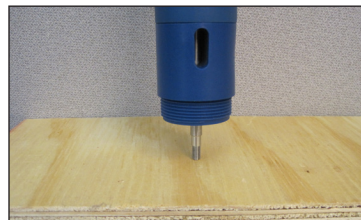

Figure 4 A & B
2. **Shaft Removal** - To remove the shaft (item 4), tap the bottom of the shaft on a piece of wood or plastic and push the shaft up and out of the head (item 6). See *Figure 4 A & B*. Grab the half coupling or bearing and pull the shaft assembly straight out of the head. Note: Take care to not bend the shaft. **Important** - The shaft should only be removed if the bearing is frozen and needs to be replaced. Hold the pump shaft (item 4) with a pliers or vise grip. Turn the coupling half (item 2) counter clockwise (right hand thread) to remove it from the shaft. The bearing (item 4) will slide off the shaft. See *Figure 5 A & B*. If the bearing is frozen or corroded to the shaft use a penetrating fluid and socket to help tap it off. Install a new bearing (item 4), and hand tighten the coupling half (item 2). These items will only fit properly on one end of the shaft.